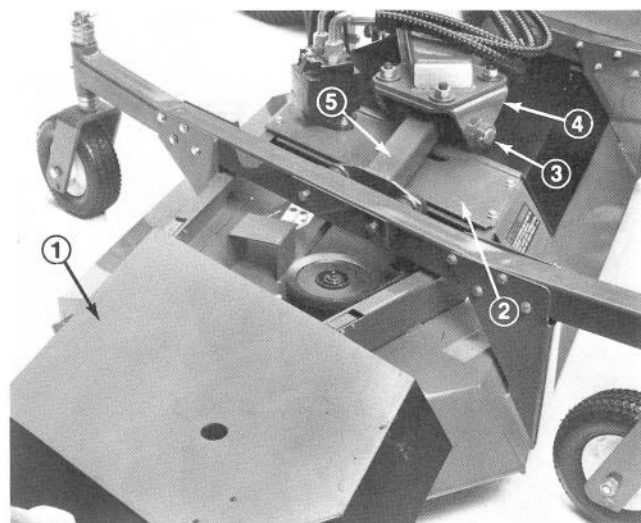

Figure 63
3. Remove flange head screws securing gearbox plate to deck. To separate plate and drive motor assembly from deck, rotate plate end toward traction unit (Fig. 63). Tip plate, motor and pulley assembly on its side and remove from deck. Be careful not to bend, twist, kink or damage flexible hydraulic lines.
4. Remove locknut securing deck pivot shaft into deck clevis and lift bar (Fig. 63).